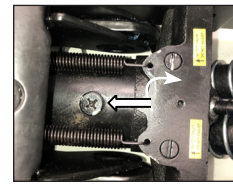

fig 4.
- Remove fluid filler plug (fig.4). Hydraulic fluid level should be visible at the oil filler hole approx 12 mm below fluid filler, top as required.